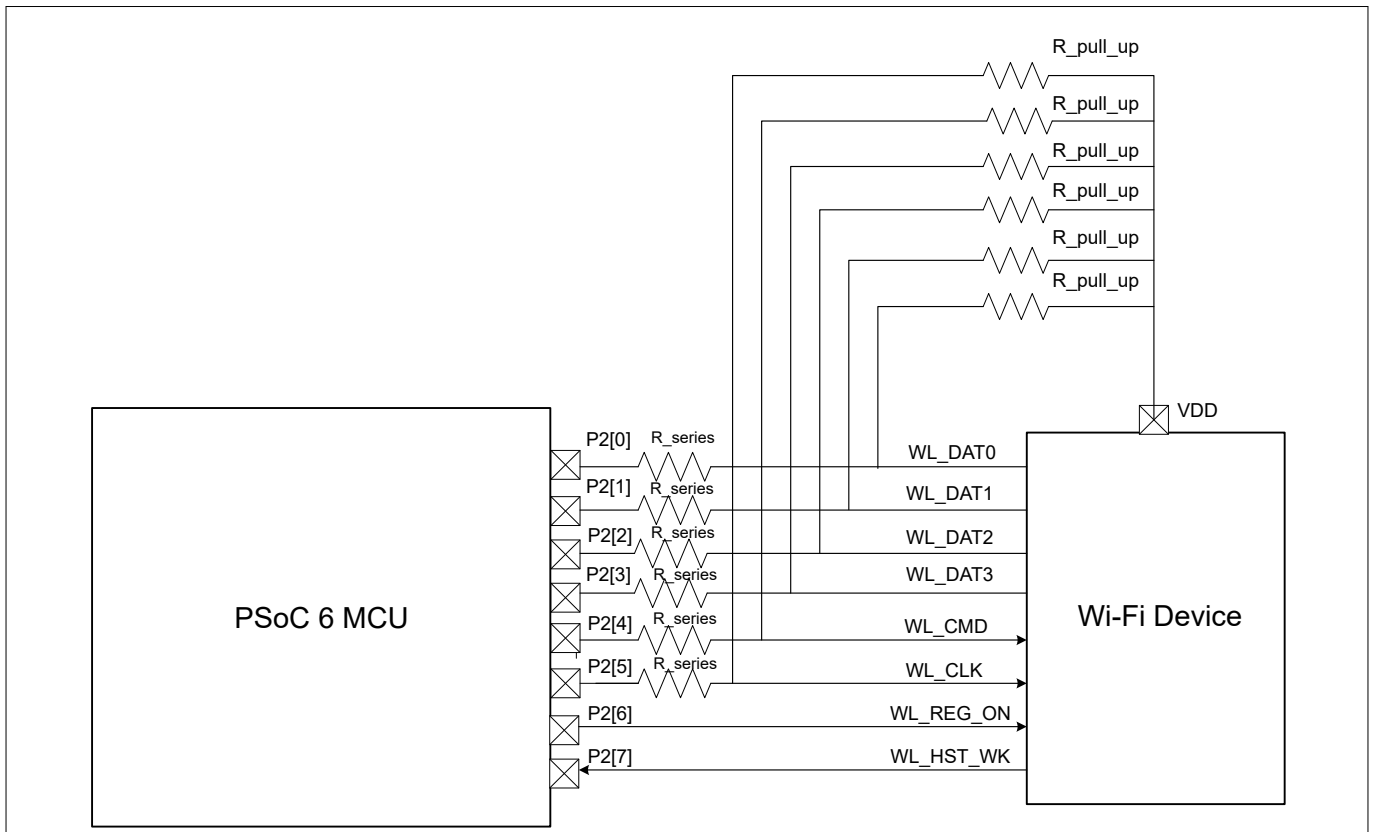
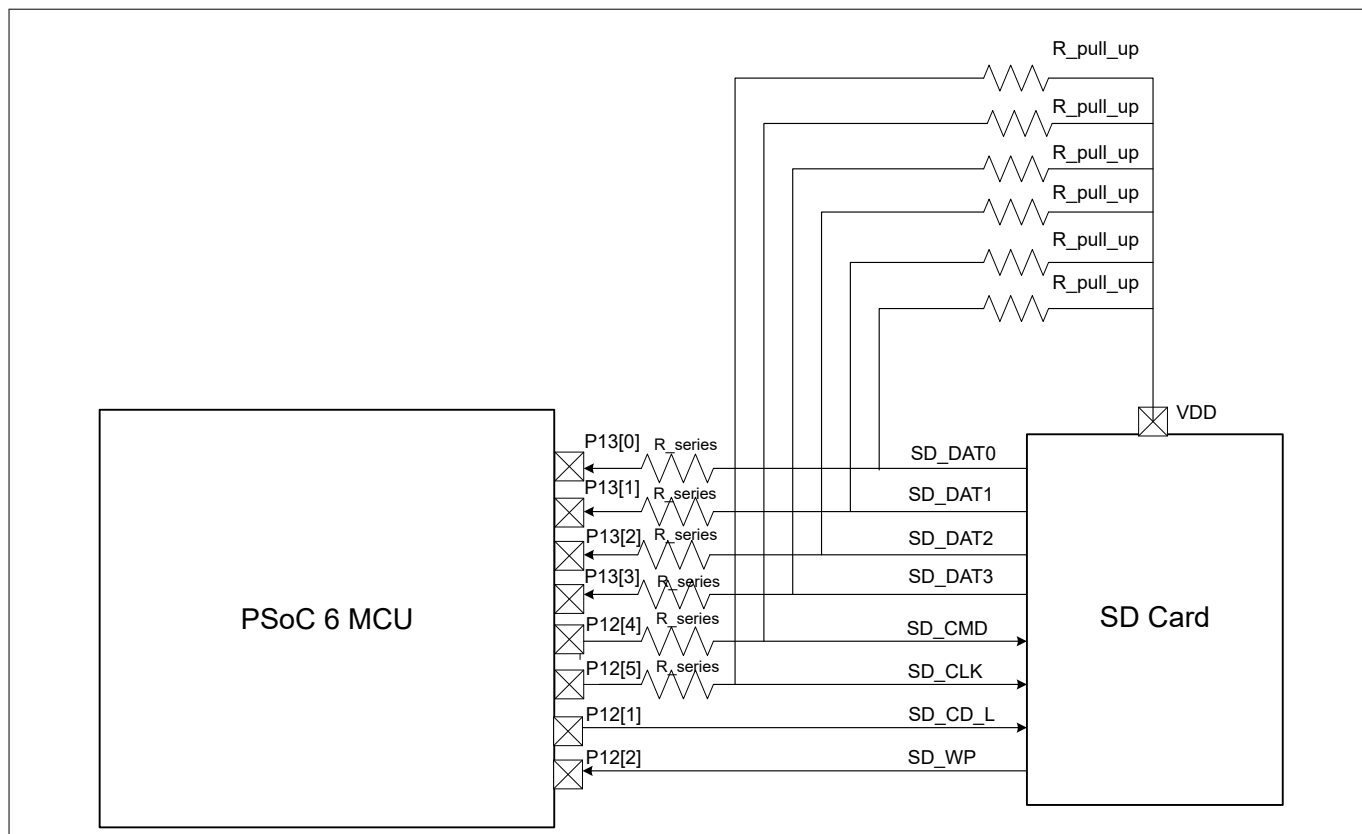

Figure 36 Interfacing Wi-fi device using SDHC in PSoC™ 6 MCU
Figure 37 Interfacing SD storage using SDHC in PSoC™ 6 MCU
CY8C62xA/8/5 devices of the PSoC™ 6 MCU family have up to two secure digital host controllers (SDHC). The SDHC allows interfacing with embedded multimedia card (eMMC)-based memory devices, secure digital (SD) cards and secure digital input output (SDIO) cards. The SDHC block can be used to connect devices providing the SDIO interface, such as Infineon Wi-Fi products. Figure 36 and Figure 37 shows interfacing of a Wi-Fi device and SD storage with PSoC™ 6 MCU. It is recommended to have pull-up resistors (R_{pull_up}) in the range of 10 kΩ – 100 kΩ on the SDIO lines. Also, it is recommended to use series termination resistor of 33 Ω on the SDIOs lines.